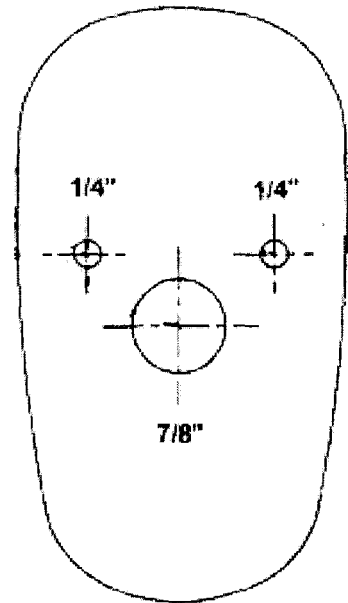

Figure 3
14. Using a 7/8 inch (22 mm) hole saw, drill five 7/8 inch holes into the roof as shown on the template (Figure 3).
15. Using a 1/4 inch (6.35 mm) drill, drill ten 1/4 inch holes into the roof as shown on the template (Figure 3).